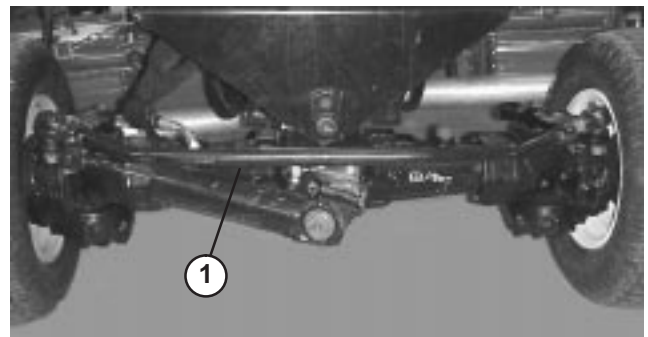

Figure 71
3. Loosen clamps on both ends of tie rod (Fig. 71).